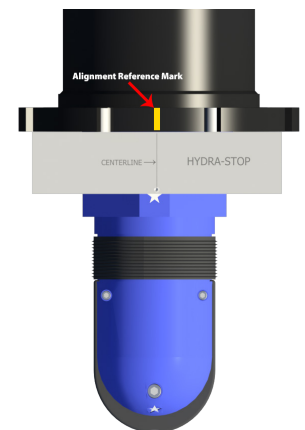

FIGURE 53
3.0.15) Ensure the flat of the alignment gauge arm remains aligned with the truncated side of the valve cartridge (see Figure 53).